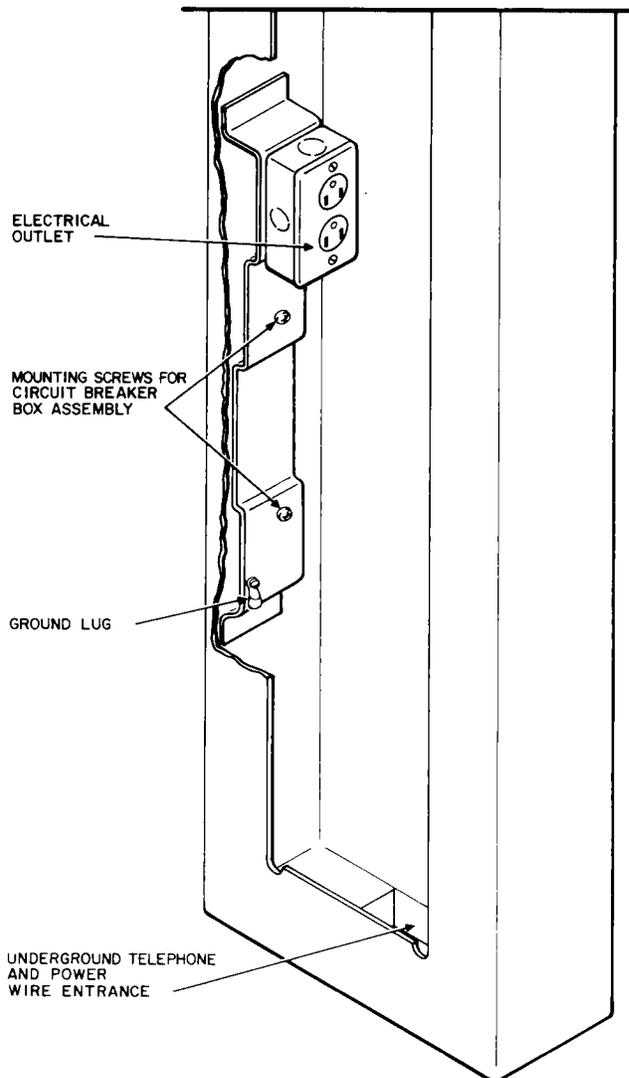

Fig. 26—Components in Bottom of Post (Typical)
- (8) Plug the electrical cord into the receptacle provided in lower portion of post (Fig. 26) and replace front panel in post or bottom cover in mounting removed in (2).
- (9) Install diffuser in housing and tighten the two screws at rear of diffuser. Install the two security screws, removed in (a), and secure top of diffuser.
- (10) Install 1-type coin telephone set per Section 506-410-400 or TOP 506-410-402. Install 10A coinless telephone set per Section 506-500-100.